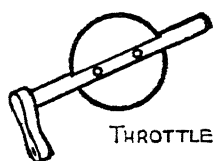
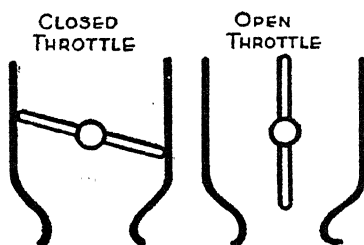

Fig. 23. Throttle Valve with Control Attached
Fig. 24. Open and Closed Throttle as Illustrated in Conventional Drawings
*Throttling the Car.* The butterfly throttle is used in all carburetors for controlling car speed. This is a relatively simple device and is illustrated in Fig. 23. When the foot accelerator is depressed, the throttle is first cracked or opened very slightly and then gradually opened to its full open position. Closed and open positions for the throttle are illustrated in Fig. 24. When starting an engine, it is desirable to have the throttle closed or almost closed. The reason for this is that the engine is turning very slowly and no considerable vacuum is secured if the throttle is opened any great amount. In other words, vacuum is desired and necessary if gasoline is to be raised from the carburetor bowl to the mixing chamber and then carried through the intake manifold to the engine. The distance it is lifted will vary in different cars, but it will fall within the limits of 4 to 10 inches usually. Very often carburetors are provided with a special starting jet, which is placed just above the edge of the